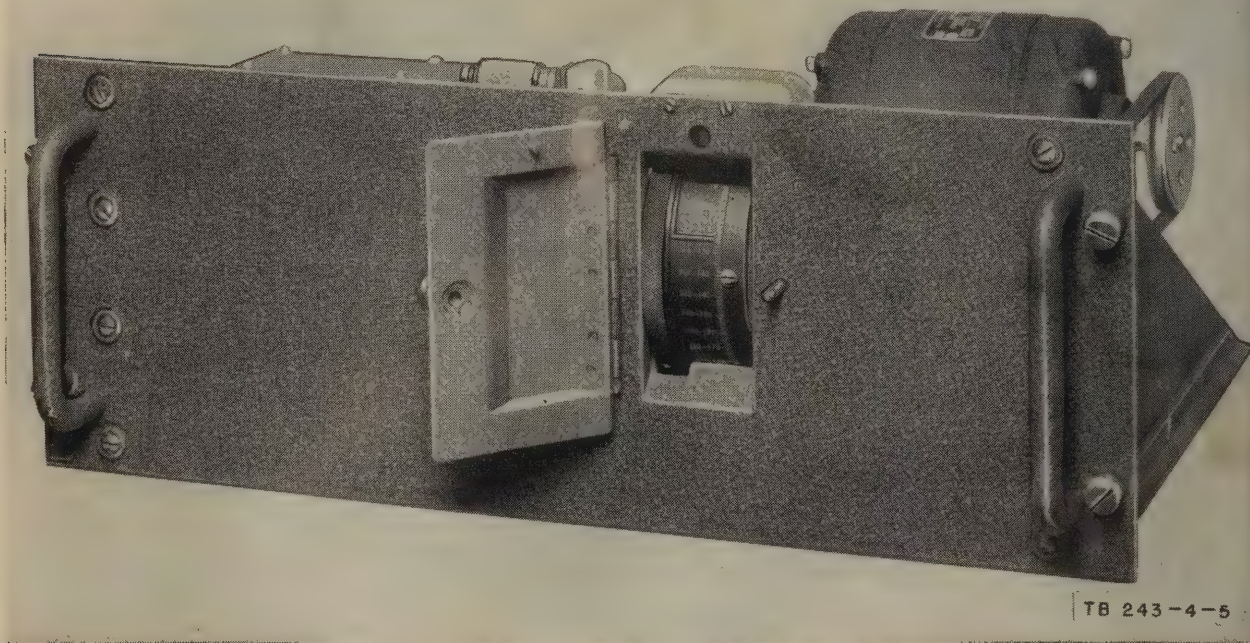

Figure 189. Goniometer Drive Unit RC-295, front view.
b. Goniometer Drive Unit RC-295 (figs. 189 and 190) consists of a 1/10-hp motor coupled by a rubber belt to a two-phase permanent-magnet type alternator. Provision is made for mounting Goniometer MC-412-A and coupling it to the shaft of the alternator. The unit rotates the goniometer and synchronizes the pattern on the bearing indicator with the rotation of the goniometer. The goniometer drive unit requires 75 watts at 110-115 volts ac, 50-60 cycles.
*b.* GONIOMETER DRIVE UNIT RC-295. The front panel of the goniometer drive unit is a standard 7- by 19-inch rack panel. To this panel is fastened a chassis on which are mounted the goniometer, alternator, and drive motor. The entire unit slides into the bottom rack of Chest CH-300 and is held in place by four captive screws on the front panel (figs. 189 and 190).